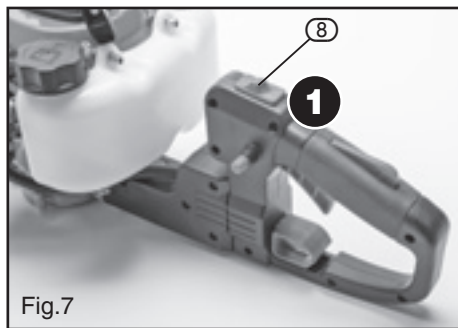

Fig.7
9.2 WARM STARTING THE ENGINE – FIGS. 7 – 8